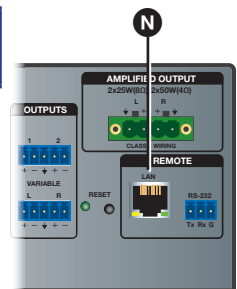

**Figure 1.** Rear Panel Connectors, IN1608 xi IPCP SA
- Connect analog video sources to the VGA connectors (see figure 1, **B**, on the previous page).
Connect a 100 to 240 VAC, 50-60 Hz power source to the AC power connector (see figure 1, **A**, on page 1).